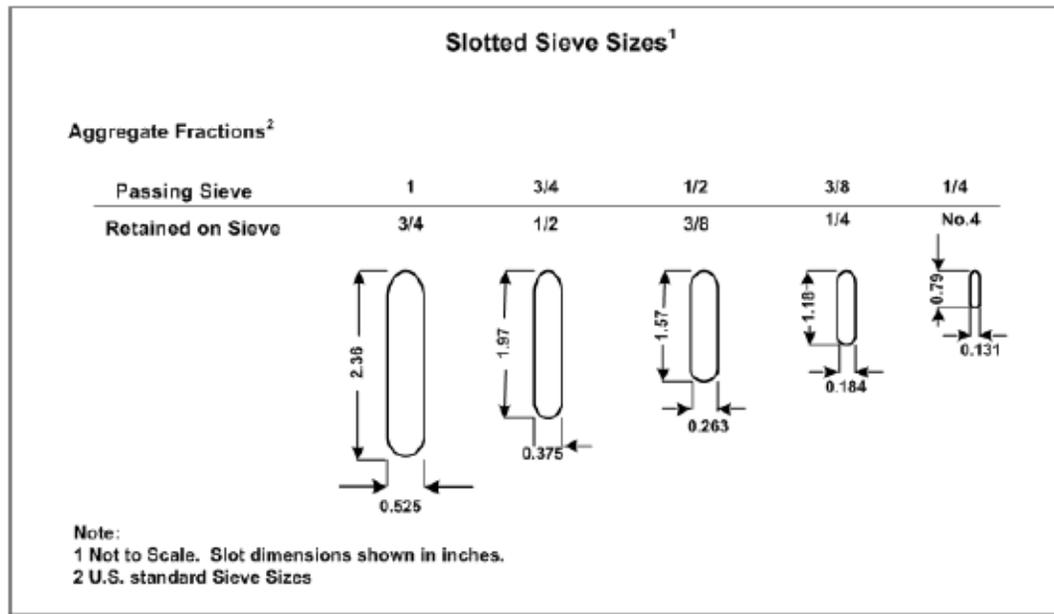

Figure 1. Slotted Sieve Openings
- 5.3 Metal plate, approximately 0.0625 in. thick with slotted openings conforming to the dimensions indicated in Figure 1